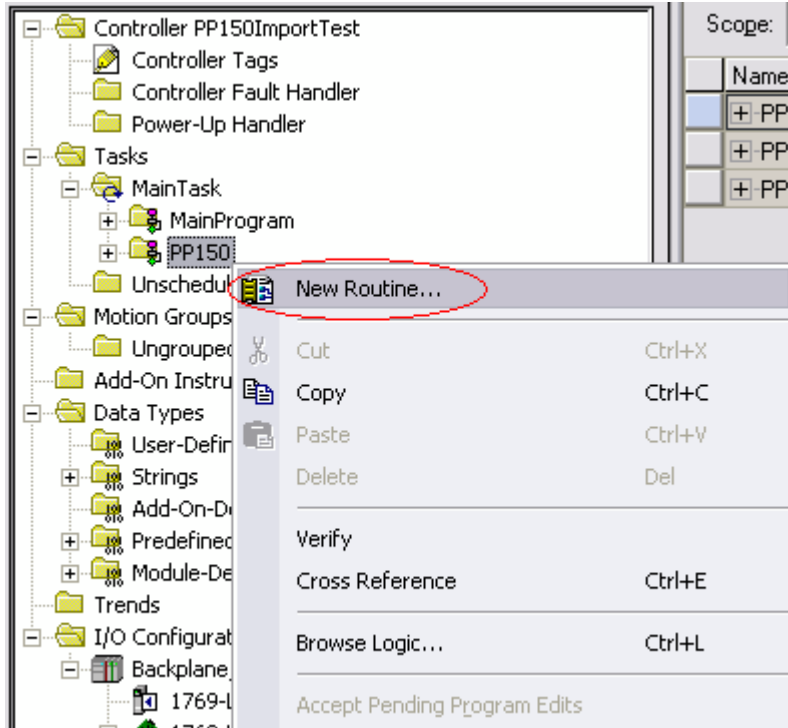

FIGURE 10.10
L. RIGHT CLICK ON THE NEW PROGRAM (PP150) THAT YOU JUST MADE AND SELECT “NEW ROUTINE...” (FIGURE 10.10)